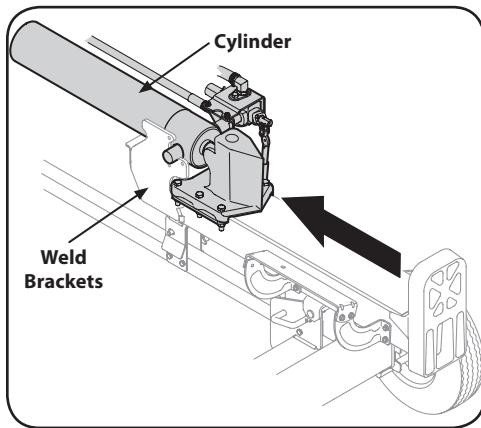

Figure 3-6
- Lift and slide the cylinder up to the top of beam and into the weld brackets. See Figure 3-6.